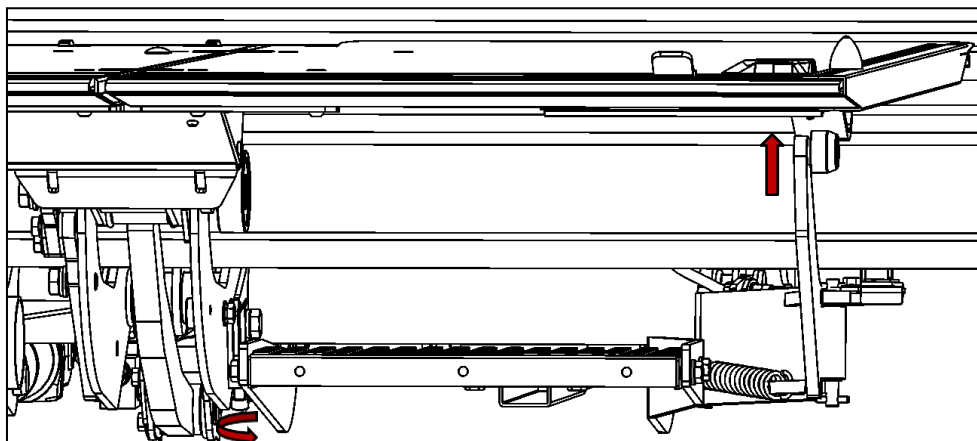

Figure 79
- Rotating the adjustment screw (1) to the right lifts the support arm (4).
- Rotating the adjustment screw (1) to the left lowers the support arm (4) (see Fig. 79).
- When finished adjusting, tighten the bolt (3) for securing the torsion bar to 115 Nm (see torque table on page 67).